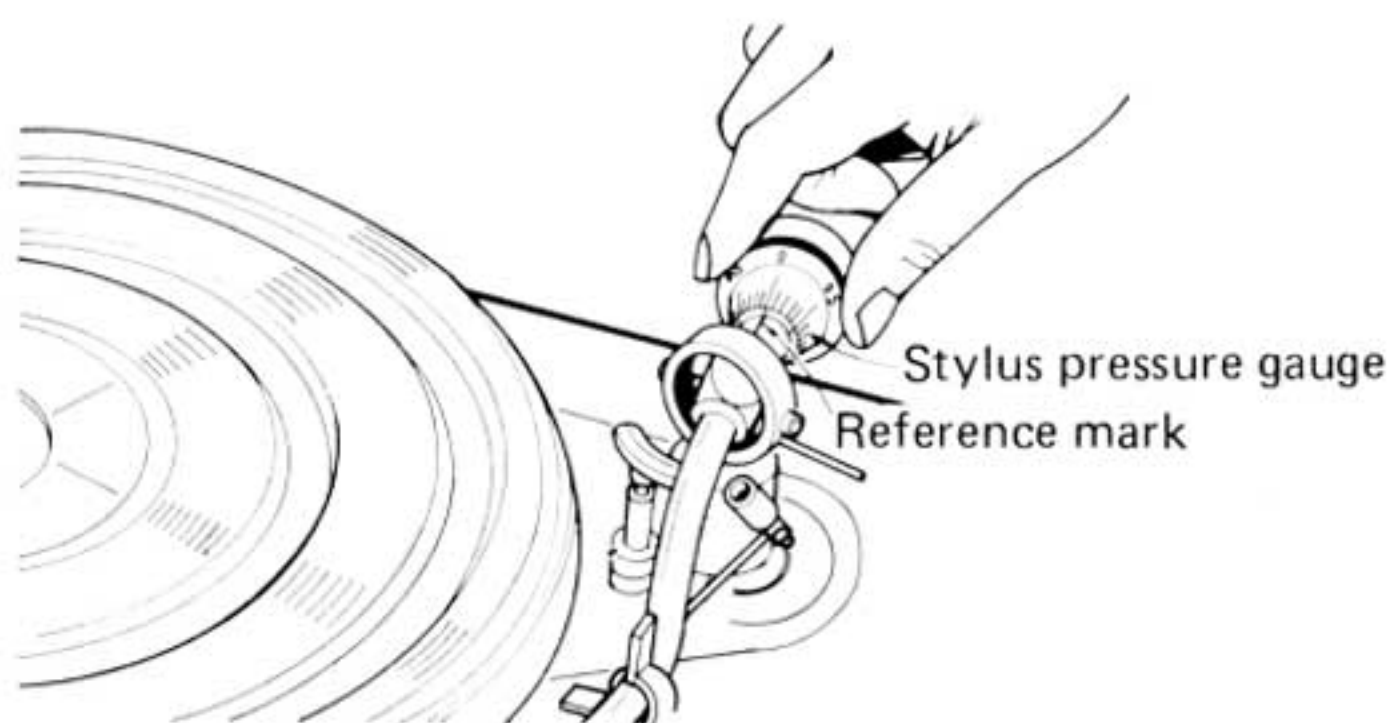

Fig. 5
3. Holding the weight so that it does not move, turn the stylus pressure gauge till it registers "0". Check to see that it is still balanced. (Fig. 5).